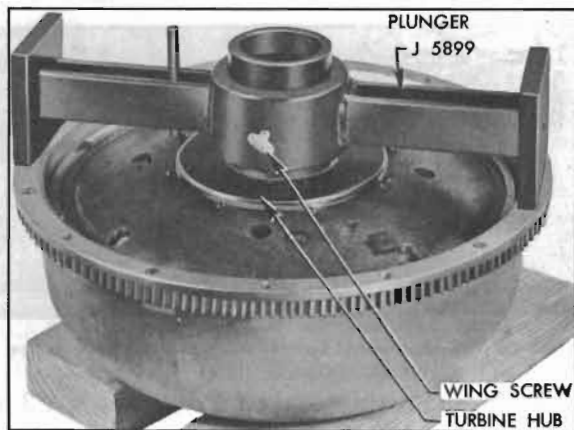

Figure 5-104—Gauge J 5899 on Pump and Turbine
5. Install Converter Clearance Gauge J 5899 on converter pump flange, making sure that indicator post does not contact the turbine. Loosen wing screw, firmly press gauge plunger down against first turbine hub and tighten wing screw. See figure 5-104.